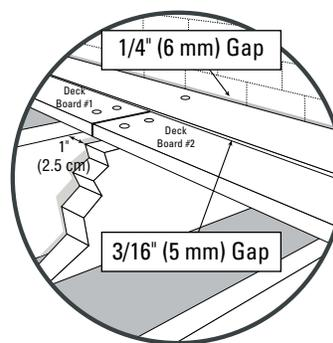

Figure 4
- Side board spacing 3/16" (5 mm); between board and any permanent structure or post 1/4" (6 mm) (Figure 4)